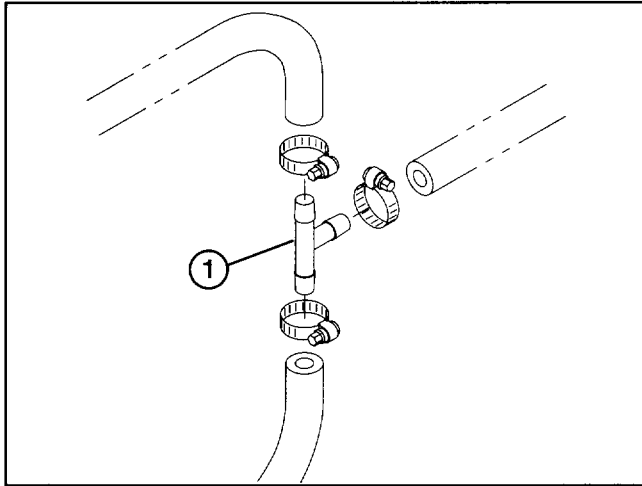

Figure 8
MOUNT COUNTERBALANCE MANIFOLD (Fig. 8–16)
4. Mount the hoses to new T-fitting with hose clamps removed, as shown in figure 8.